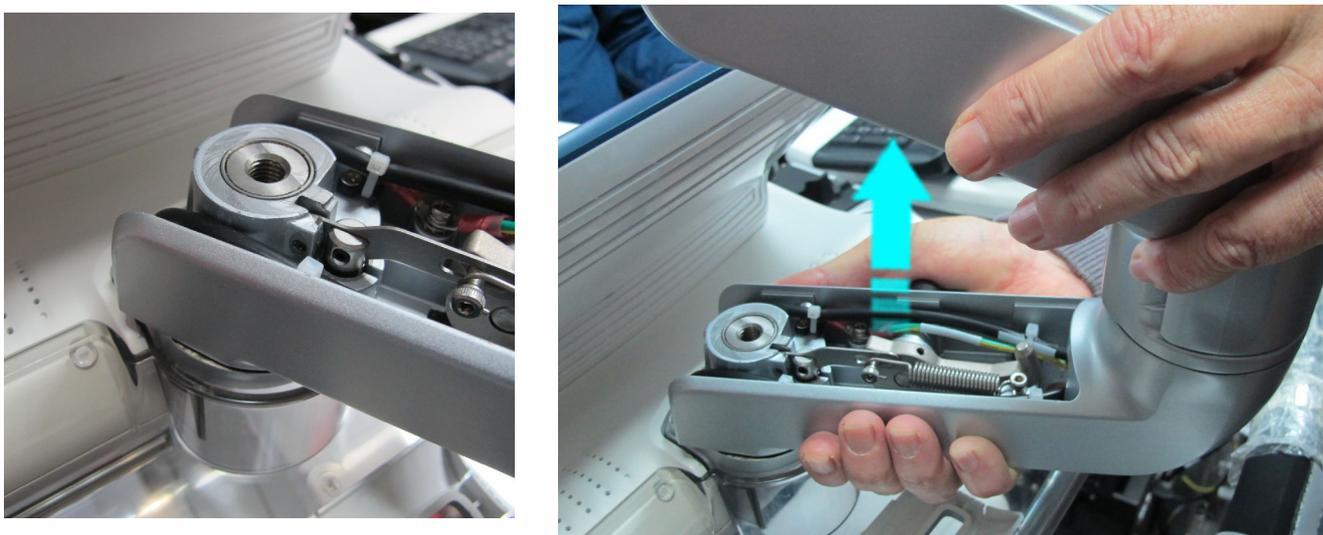

Figure 8-233 Removing the Monitor Articulated Arm
- 2.) To remove the Articulated arm, hold the lower arm section and gently ease the Articulated Arm upwards to remove it from the system - Figure 8-233.
- 2.) Place the new Articulated Arm in position at the correct location on the system - see Figure 8-233 and secure the Articulated Arm with the securing bolt (previously removed).